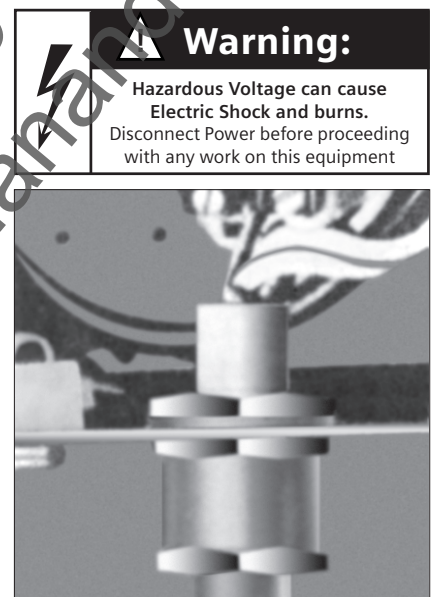

Fig. 3 : Cable Connections
- Connect incoming and outgoing cables as follows (Refer fig. 3):